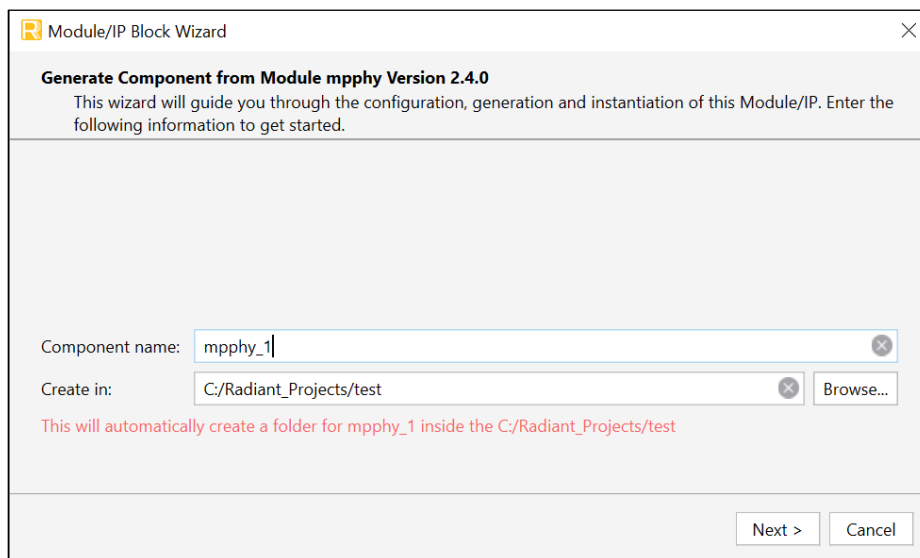
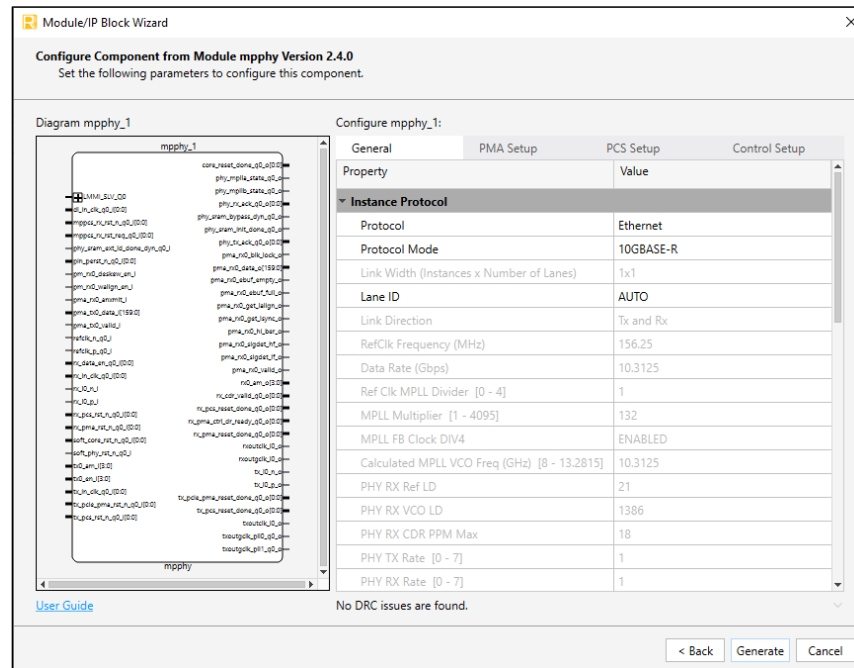
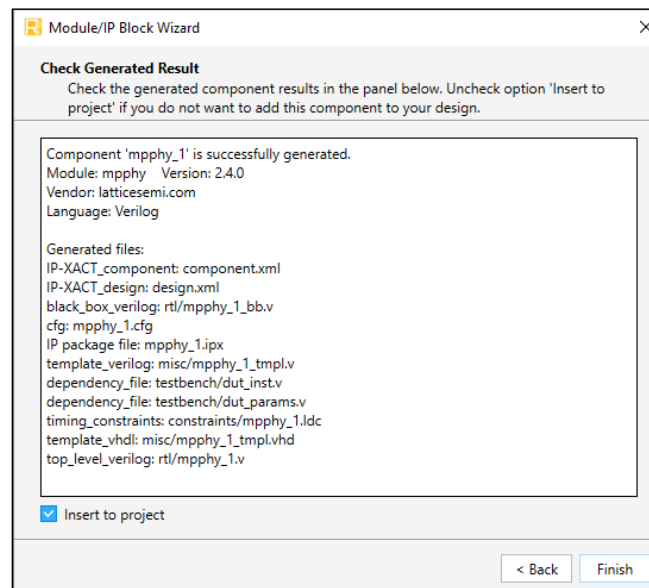

Figure 5.1. Module/IP Block Wizard
Figure 5.2. Configuring User Interface of MPPHY Module
Figure 5.3. Check Generated Result
3. The **Module/IP Block Wizard** opens as shown in Figure 5.1.
- In the module dialog box of the **Module/IP Block Wizard** window, customize the selected MPPHY Module using the drop-down menus and check boxes. Refer to Figure 5.2 for a sample configuration. For configuration options, refer to the Attributes Summary section.
- Click **Generate**. This shows the design block messages and results as shown in Figure 5.3.
- Click **Finish**. All the generated files are placed under the directory paths in the **Create in** and the **Component name** fields shown in Figure 5.1.
IP Generation and Evaluation	Updated the following figures: - Figure 5.1. Module/IP Block Wizard - Figure 5.2. Configuring User Interface of MPPHY Module - Figure 5.3. Check Generated Result